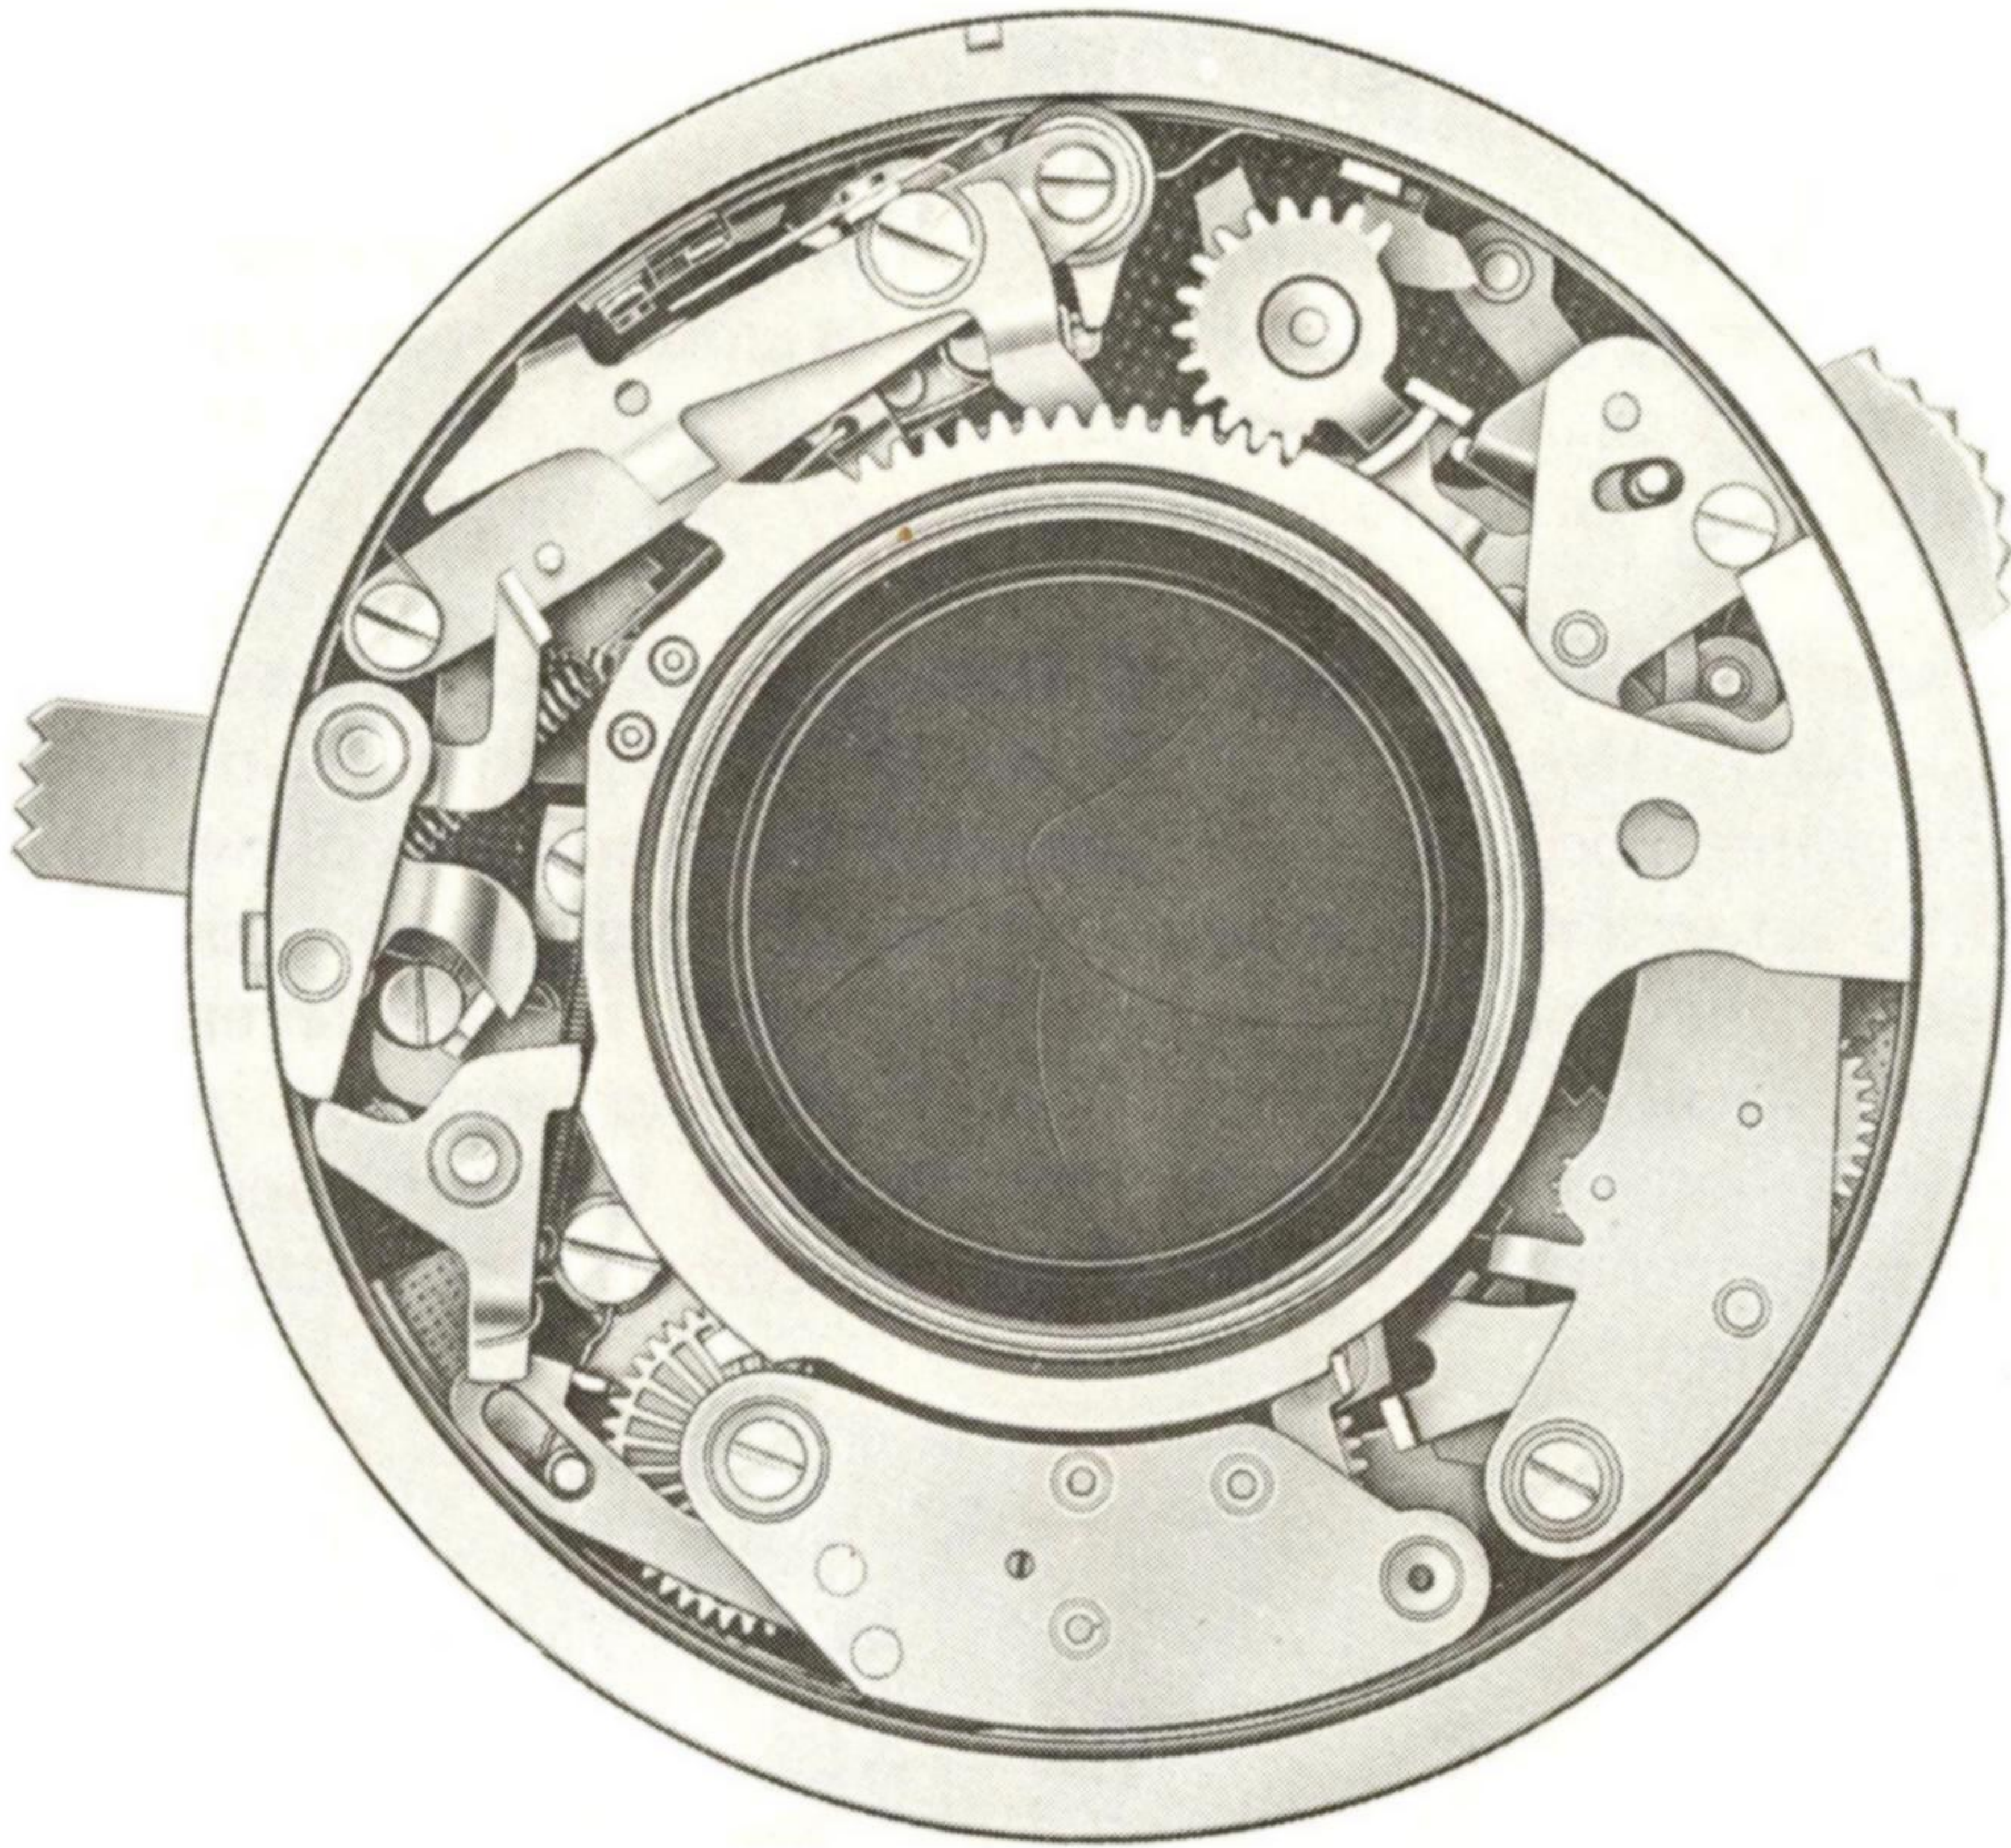

FIGURE 1
You have already studied the externally set and released Synchro-Compur 00-MXV. This shutter is shown in (A) of figure 1. In (B) of this figure, notice the modifications which have been made to allow the same shutter to be set and released by the camera controls. Except for the slight differences in the cocking ring and the outer release lever, the two shutters are practically identical. Also, there is a variation in the flash terminal strips—in cameras using the internally set and released model (B), the flash sync nipple is located on the camera body rather than on the shutter housing.
Except for these modifications, the Wide-Reflex is practically the same shutter as the one shown in (A) of figure 1. Thus, there are several comparisons which may be drawn between the two shutters. To distinguish between the two models, the Synchro-Compur 00-MXV you previously examined will be referred to in this text as the "basic 00-MXV." Remember, this is the shutter shown in (A) of figure 1. The model shown in figure 2 and in the following disassembly will be called the "Wide-Reflex."